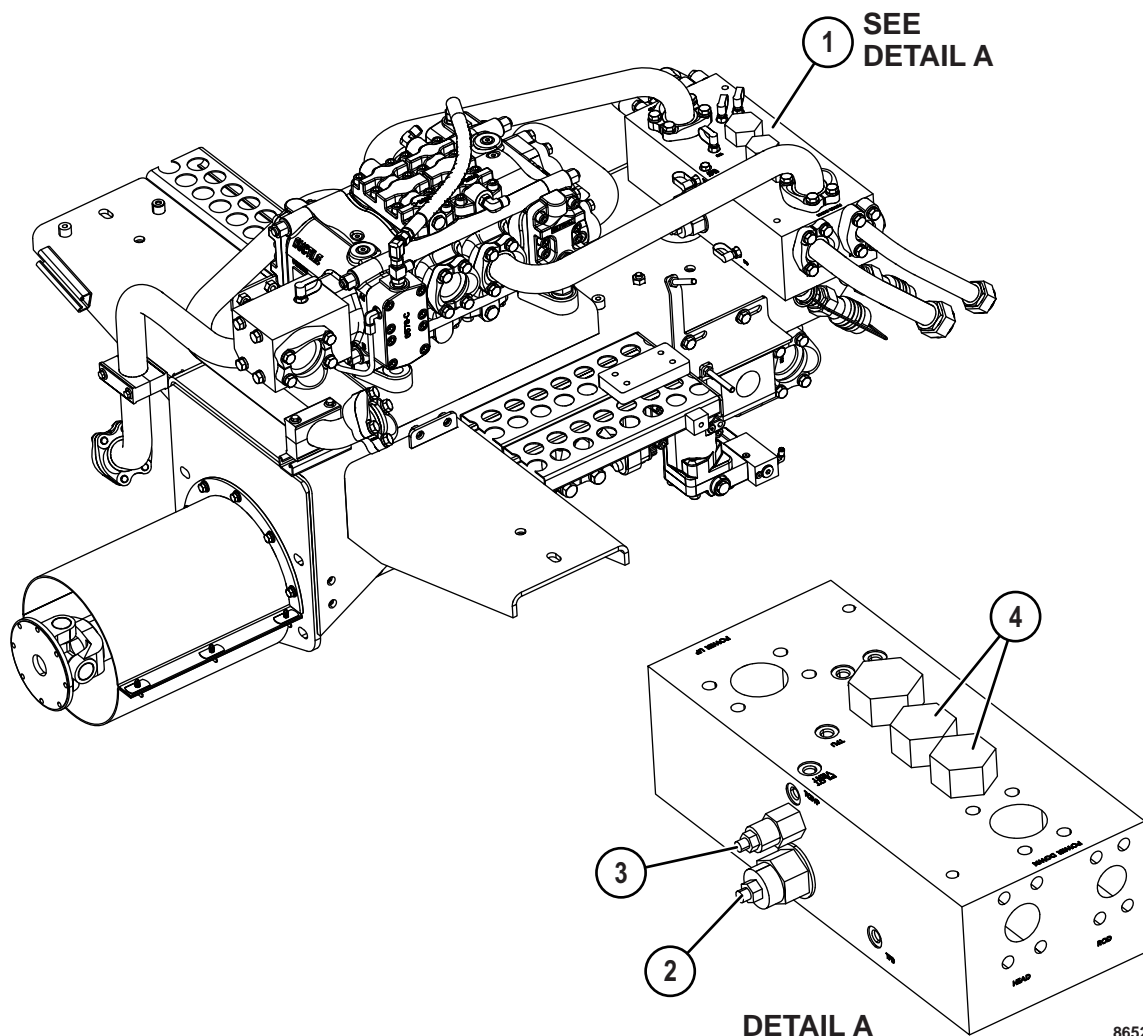

FIGURE 50-32. OVERCENTER MANIFOLD VALVES
5. Lubricate O-rings (5) and (6) with clean hydraulic oil. Install the O-rings in the bottom of the spool housing. Install bottom cover (9) and secure it in place with capscrews. Tighten the capscrews to **81 N·m (60 ft lb)**.
6. Lubricate O-rings (5) and (6) and install them in the top of the spool housing. Install top cover (4) and secure it in place with capscrews. Tighten the capscrews to **81 N·m (60 ft lb)**.
7. If removed, install plugs (2) with new O-rings (3).
Overcenter manifold (1, Figure 50-32) is located at the rear of the hoist valve. The O-rings and backup rings on counterbalance valve (2), needle valve (3) and check valves (4) may need to be replaced if leaking occurs.